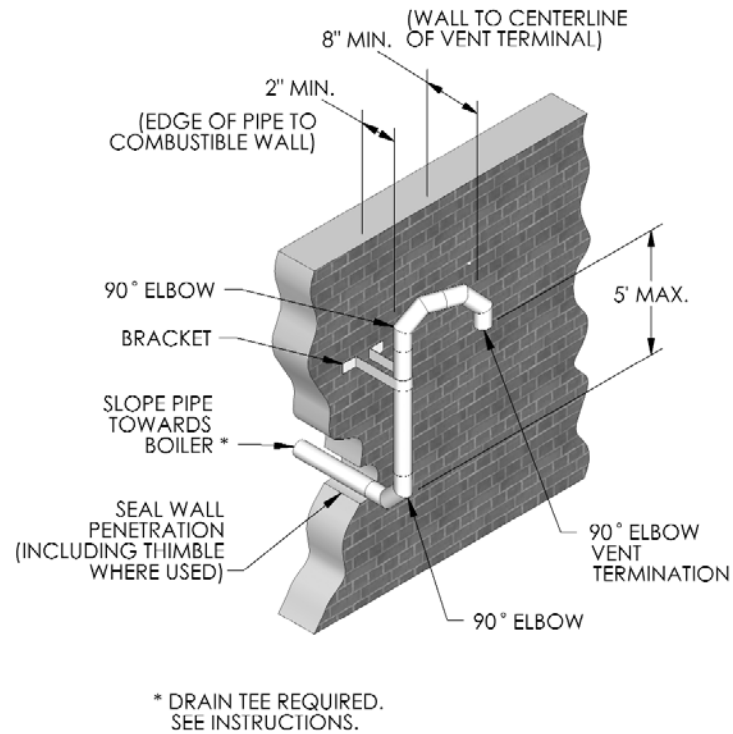

Figure 4.2: Direct Exhaust, Sidewall Venting with Vertical Off-Set
7. Refer to Figure 4.2 for vertical offset option. The maximum offset is 5 feet. With the exception of the last 90° elbow which serves as the vent terminal, the additional elbows and straight vent pipe must be considered when determining maximum vent length. Provide a horizontal drain tee as described in Section D. **Direct Exhaust; Vertical Venting**.